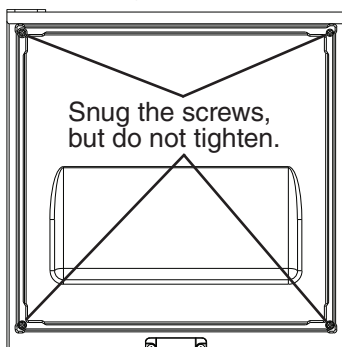

**Fig. 22**
- 3) Adjust the sheet metal bracket so that it is flush with the bottom of the door. See Fig. 22.